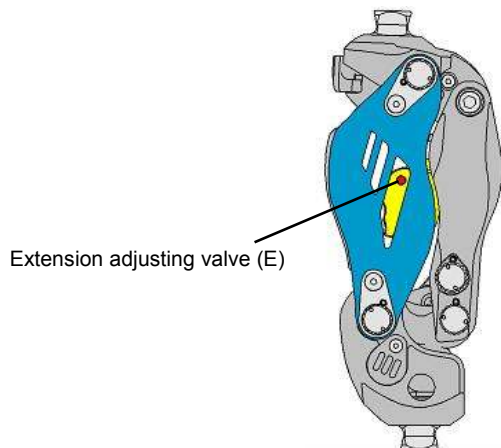
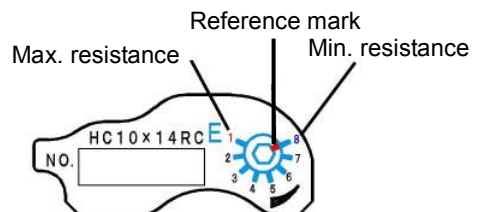

Fig. 13 Location of the Extension Adjusting Valve
Fig. 14 Graduated Scale of the Extension Adjusting Valve
If terminal impact occurs at the end of the swing phase, adjust the extension resistance. As shown in Fig. 13, the extension adjusting valve (E) is located on the left when viewed from the user. As shown in Fig. 14, the scale is graduated from “1” to “8”. “1” corresponds to the highest hydraulic resistance, and “8” corresponds to the lowest.